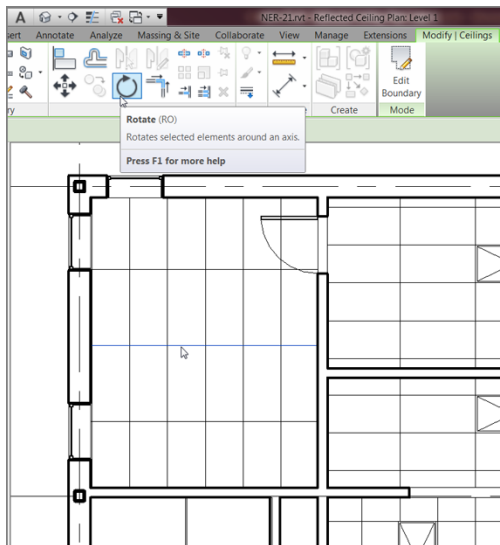

FIGURE 9.7: Select one of the grids, and click the Rotate button.
2. Pick a ceiling grid line, as shown in Figure 9.7. (Make sure you're zoomed in close enough to make the Rotate command active.)
3. On the Modify | Ceilings tab, click the Rotate button (see Figure 9.7).